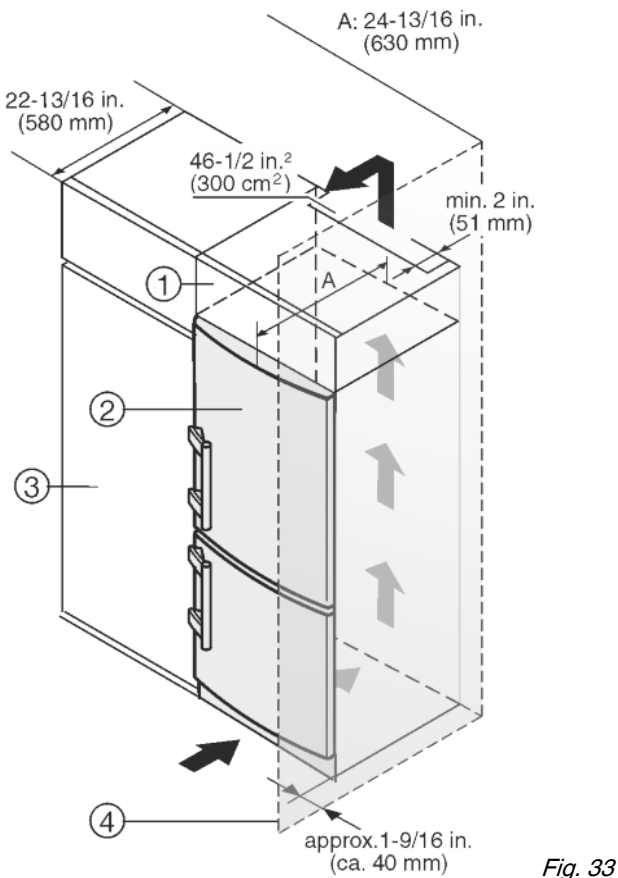

Fig. 33
- (1) Top cupboard
(2) Appliance
(3) Kitchen cabinet
(4) Wall
The appliance can be built into kitchen cabinets. To bring the appliance Fig. 33 (2) up to the height of the fitted kitchen units, a top cupboard Fig. 33 (1) can be added above the appliance.
When converting kitchen cabinets (max. depth 22-13/16 " (580 mm)) the device can be set up directly beside the kitchen cabinet Fig. 33 (3). The appliance door projects (34 mm) at the side and in the center of the appliance (50 mm) from the front of the kitchen cabinet. This allows it to open and close properly.
If the appliance is installed with the hinges next to a wall Fig. 33 (4), the gap between the appliance and the wall must be at least 1-9/16 " (40 mm). This is how far the handle protrudes when the door is open.